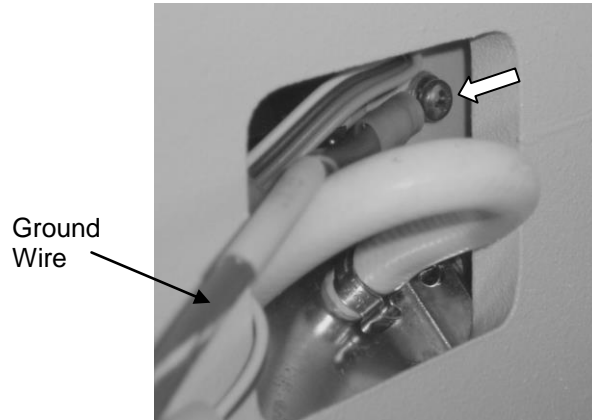

Figure 6
- 4.9 Once all four screws have been removed, the shunt assembly will be free of the cabinet. However, there will be a ground wire still attached within the shunt assembly. The ground wire screw (white arrow in Figure 6) can only be removed once the shunt box is free of the cabinet. Remove the ground wire screw and retain the hardware associated with this connection.